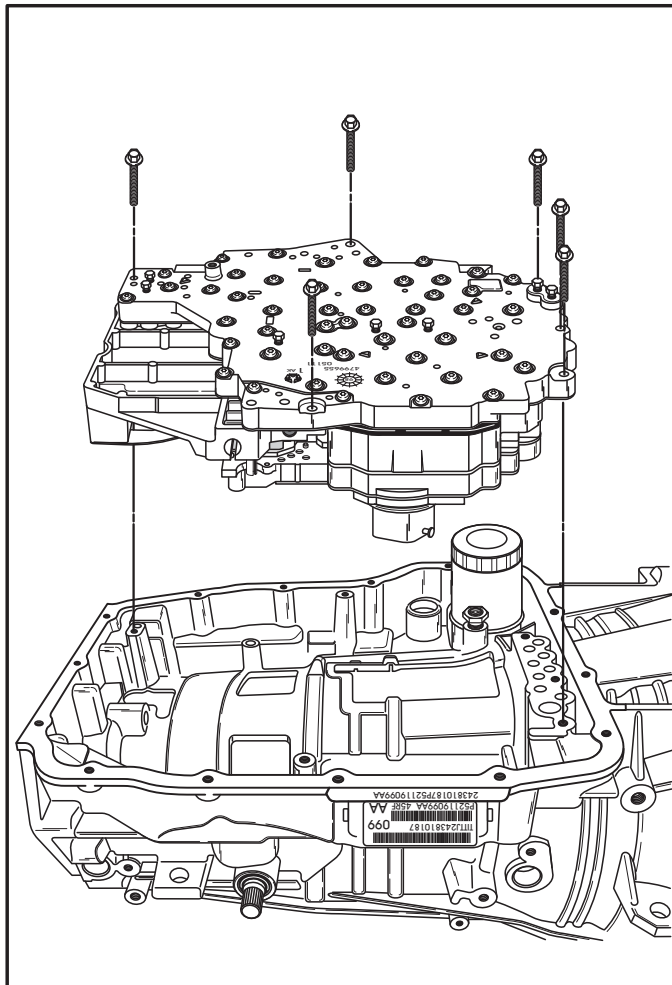

Figure 34
15. Remove the complete valve body and the TRS/Solenoid body as an assembly as shown in Figure 34, and set aside for component disassembly.